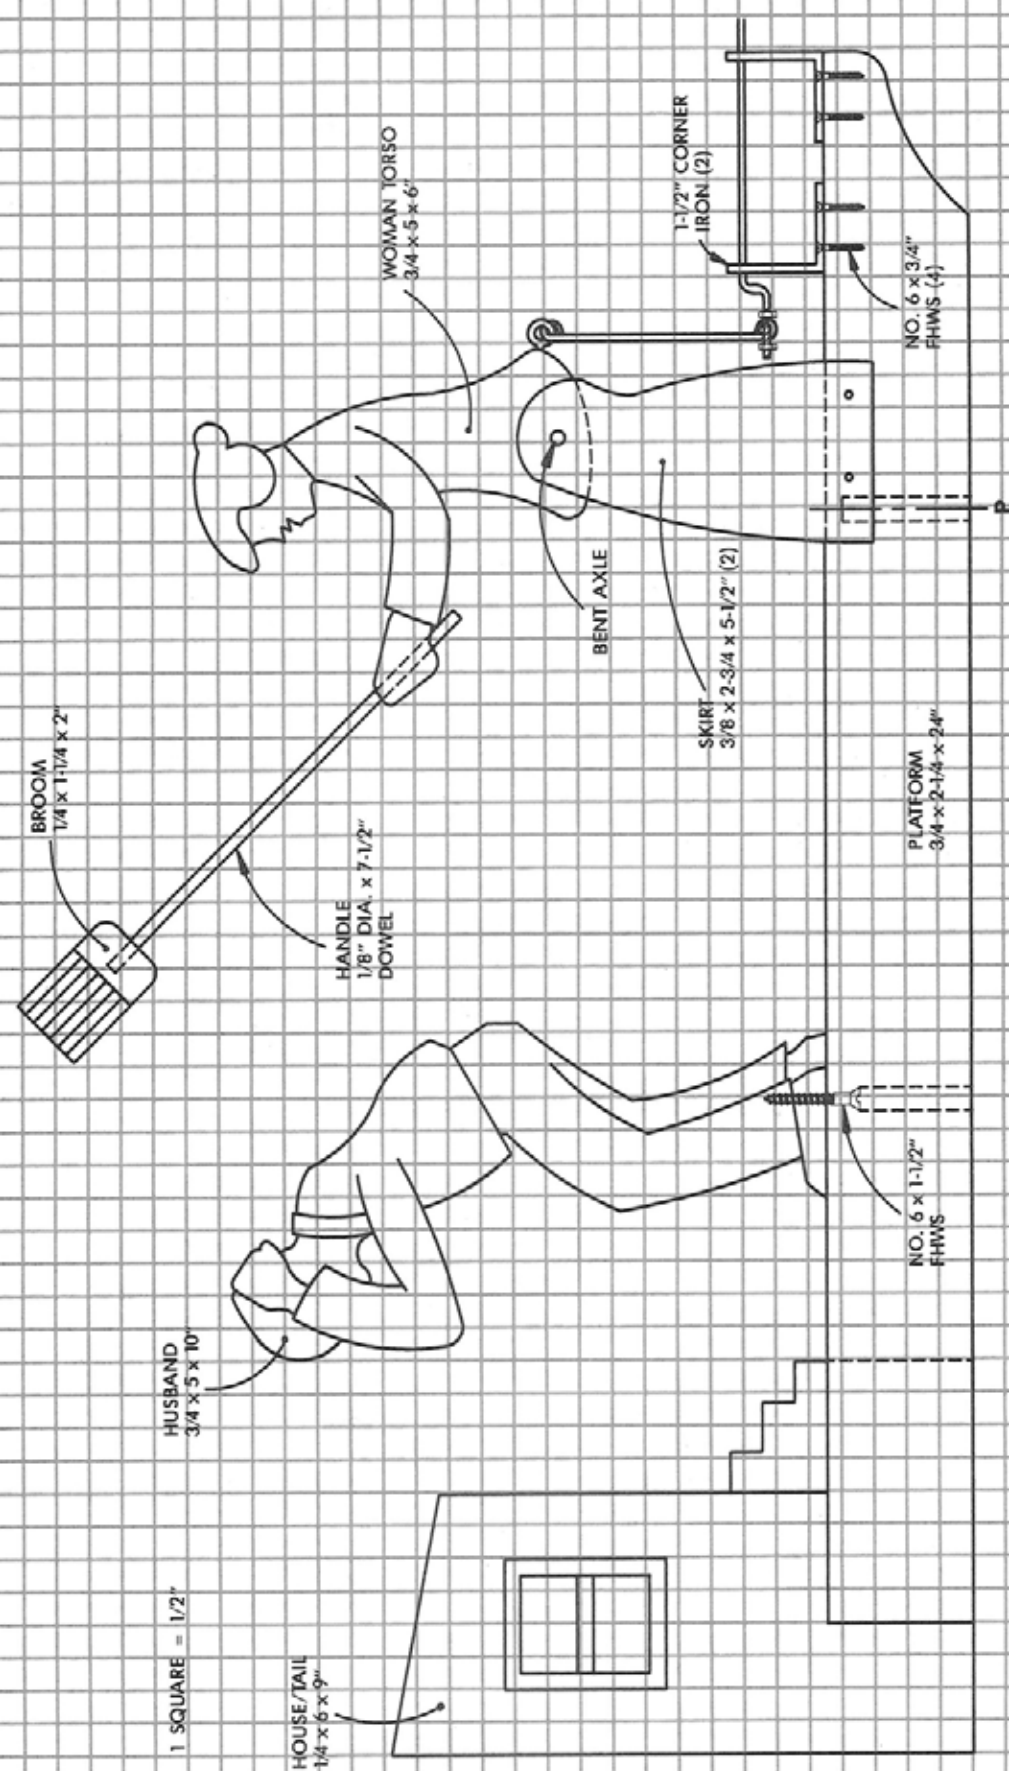

Figure 4-16. Plan for Who's the Boss whirlingig.
1. Make the standard platform and mark off where components will be located (Fig. 4-16). Cut out the 1/4 in. tail slot to 4 in. from the end of the platform. Drill the 3/8 in. pivot socket 7 in. from the front of the platform. Drill a hole for the man 16 in. from the front of the platform. Draw a line 3/4 in. from the top edge for the bottom of the skirt along the side of the platform from 5 to 8 in. Attach the corner irons.